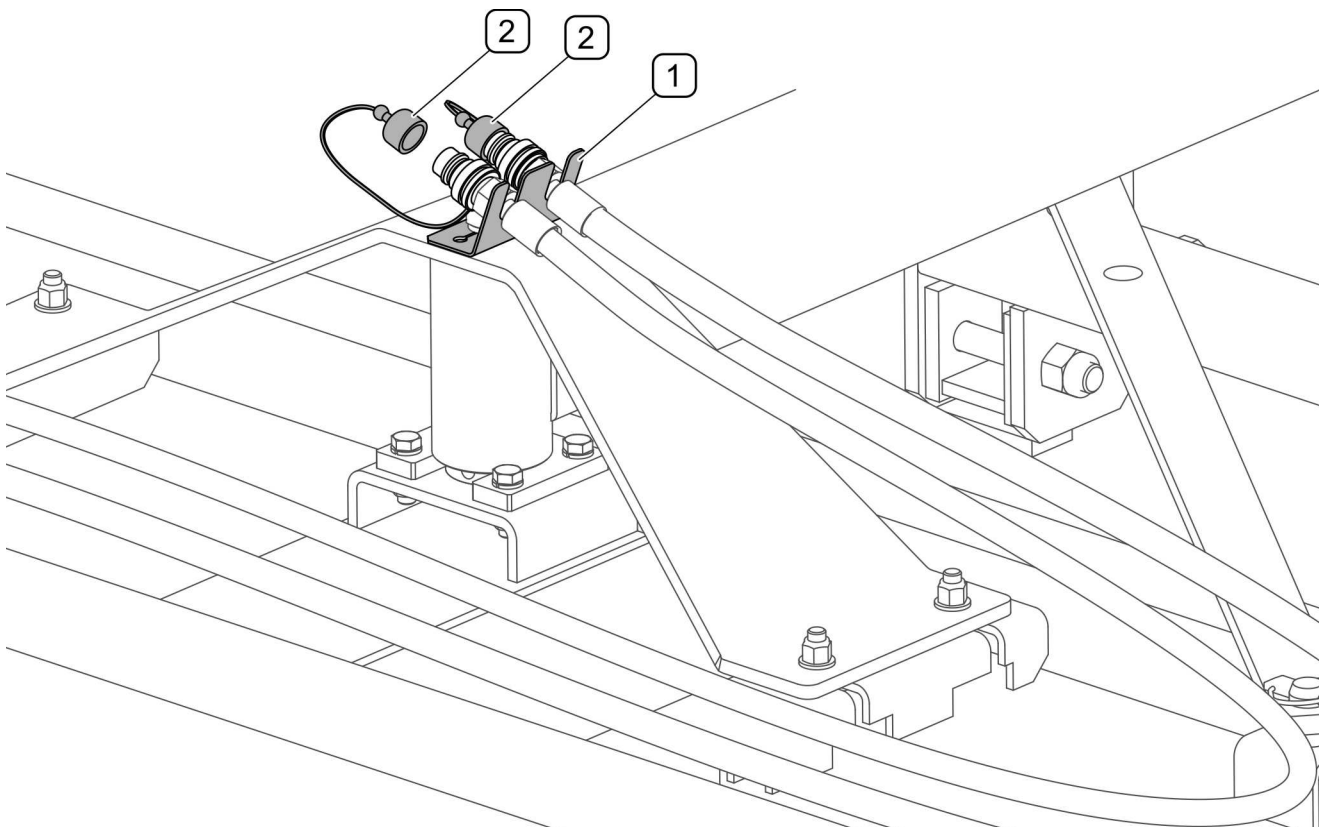

FIG. 4.14 **Protecting connectors after disconnecting from the tractor**
- Lower the parking stand (1) and set at the correct height.
- Disconnect the tractor hydraulic system connectors from, secure with caps and put in a special bracket on the frame (FIG. 4.14)